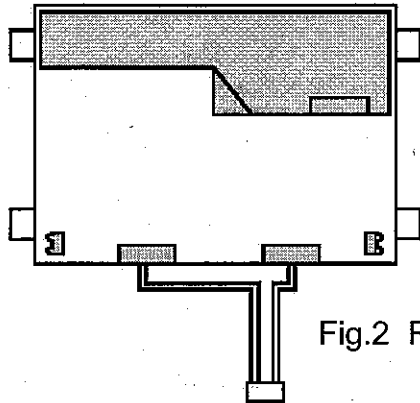

Fig.2 Rear view of a TFT-LCD Module
- (6) Materials included acetic acid and choline should not be used for a cover case as well as other parts and boards near a module. Acetic acid attacks a polarizer. Choline attacks electric circuits due to electro-chemical reaction.
- (7) The polarizer on a TFT cell should carefully be handled due to its softness , and should not be touched , pushed or rubbed with glass , tweezers or anything harder than HB pencil lead. The surface of a polarizer should not be touched and rubbed with bare Hand , greasy clothes or dusty clothes.
- (8) The surface of a polarizer should be gently wiped with absorbent cotton , chamois or other soft materials slightly contained isopropyl alcohol when the surface becomes dirty. Isopropyl alcohol as cleaning chemicals is recommended in order to clean adhesives which fix front /rear polarizers on a IPS TFT cell. Other cleaning chemicals such as acetone , toluene and normal-hexane should not be used to clean adhesives because they cause chemical damage to a polarizer.
- (9) Saliva or water drops should be immediately wiped off. Otherwise , the portion of a polarizer may be deformed and its color may be faded.
- (10) The module should not be opened or modified. It may cause not to operate properly.
- (11) Metallic bezel of a module should not be handled with bare hand or dirty gloves. Otherwise , color of a metallic frame may become dirty during its storage. It is recommended use clean soft gloves and clean finger stalls when a module is handled at incoming inspection process and production (assembly) process.
- (12) Lamp(CCFL) cables should not be pulled and held.
(13) Don't push the hatched area as shown in Fig.2.